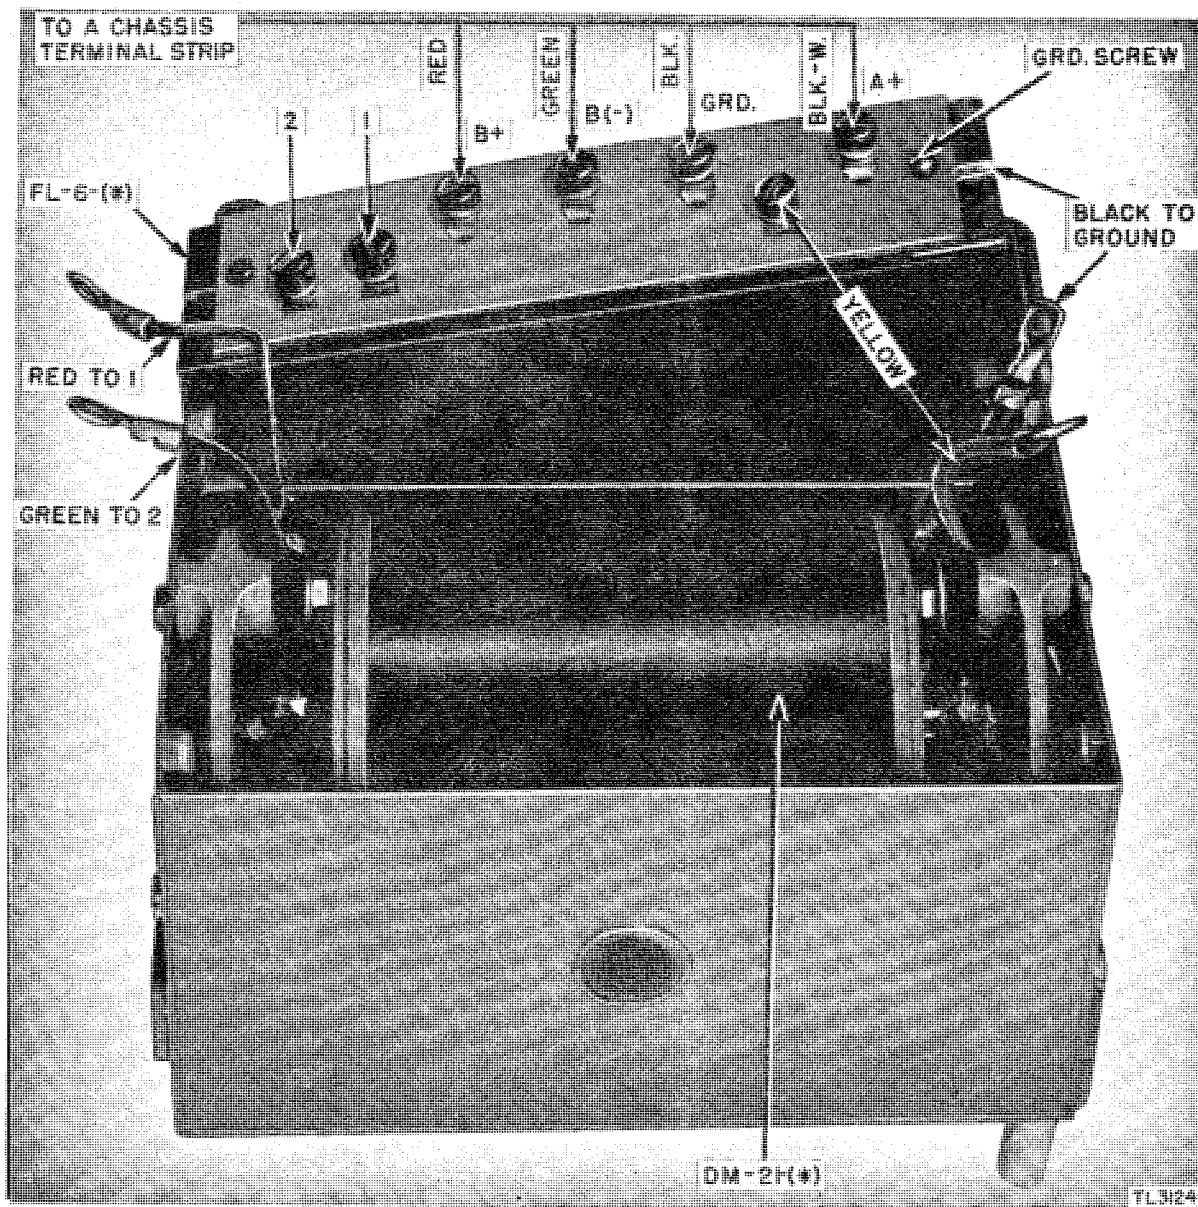

Figure 9. Filter FL-6(*) and Dynamotor DM-21-(*).
(1) Insert the spacer shims in the bearing bracket; mount the bearing bracket on the low-voltage end of the stator assembly.
(2) Connect the wires to the brush holder.
(3) Insert the spacer shims in the bearing bracket; slide the bearing on the high-voltage end of the armature into the high-voltage bearing bracket.
(4) Slide the armature into place through the stator assembly.
(5) Insert the tie bolts through the stator assembly and tighten the nuts.
(6) Connect the wires to the high-voltage brush holder.
(7) Check end play in armature (should be 0.005 to 0.015 in.).
(8) Pack outer side of each bearing two-thirds full of Grease, General Purpose No. 2, U. S. specification 2-108; replace grease-retainer cap screw.
e. FILTER PACK (Figs. 9 and 10). If the dynamotor output voltage is low, if no output is obtained, or if the dynamotor will not start when connected to Filter FL-6-(*), check chokes and capacitors for open or short circuits.